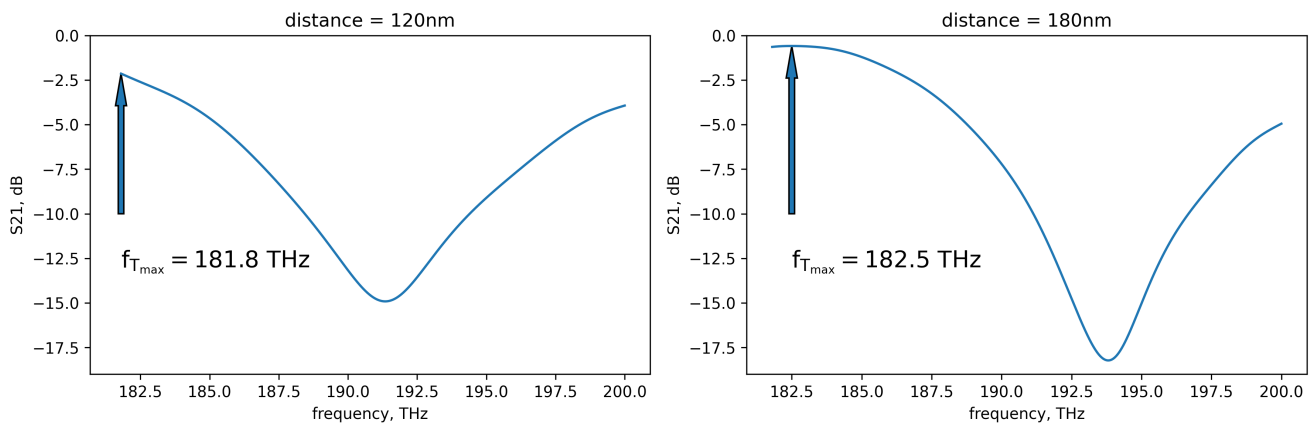

Figure 6: Simulated S21 parameter as a function of frequency for two distances. Arrows indicate the frequencies at which the S21 is maximum.
b) The simulated transmission (in dB units) is presented in figure 6.